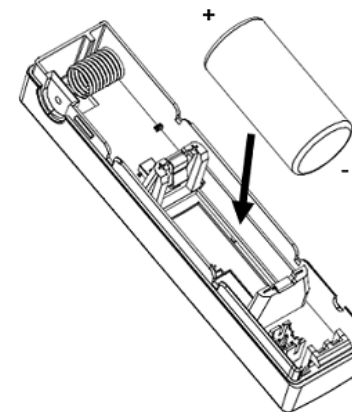

Figure 4
5. Place a battery as instructed in Figure 4 and wait until the Red / Green LED stops blinking.